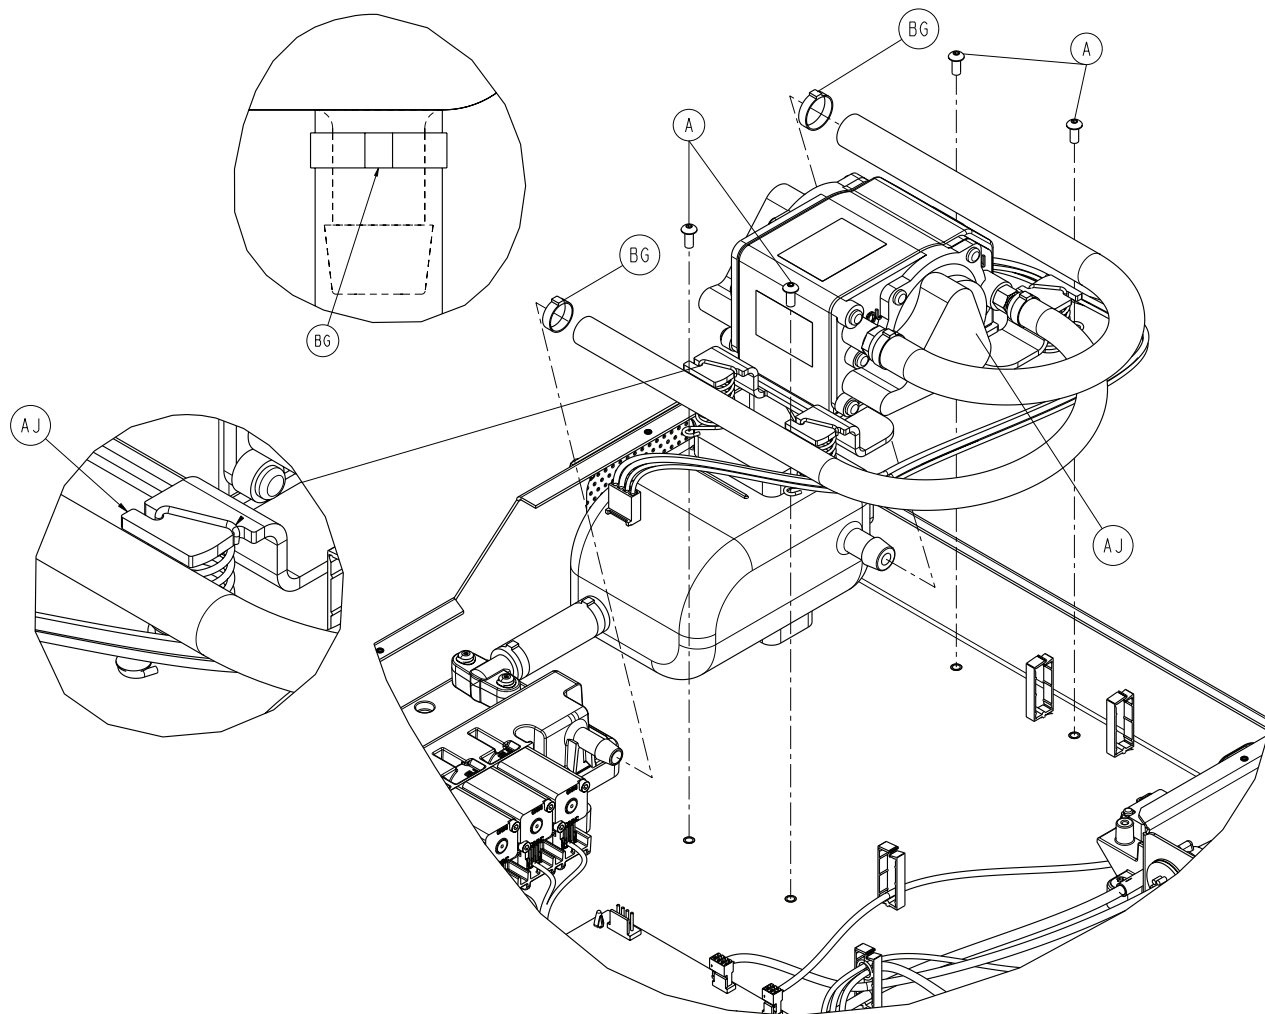

Figure 1-24: Pump assembly
4. Using diagonal pliers, carefully cut the cable ties where the inlet hose connects to the manifold (BG) and the exhaust hose connects to the resonator (Figure 1-24 on page 1-51). Do not cut the manifold barb.
5. Using a T15 Torx driver, remove the four screws (A) that secure the pump assembly (AJ) to the foot box (Figure 1-24 on page 1-51). Save the screws.